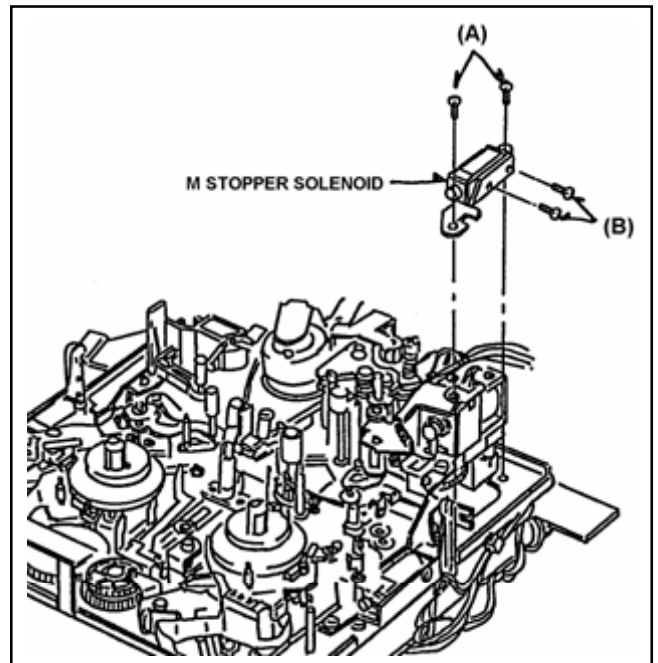

Figure 5-27-1
2. Unscrew the 4 screws (A) and (B) and remove the M-Stopper Solenoid as shown in Figure 5-27-1.